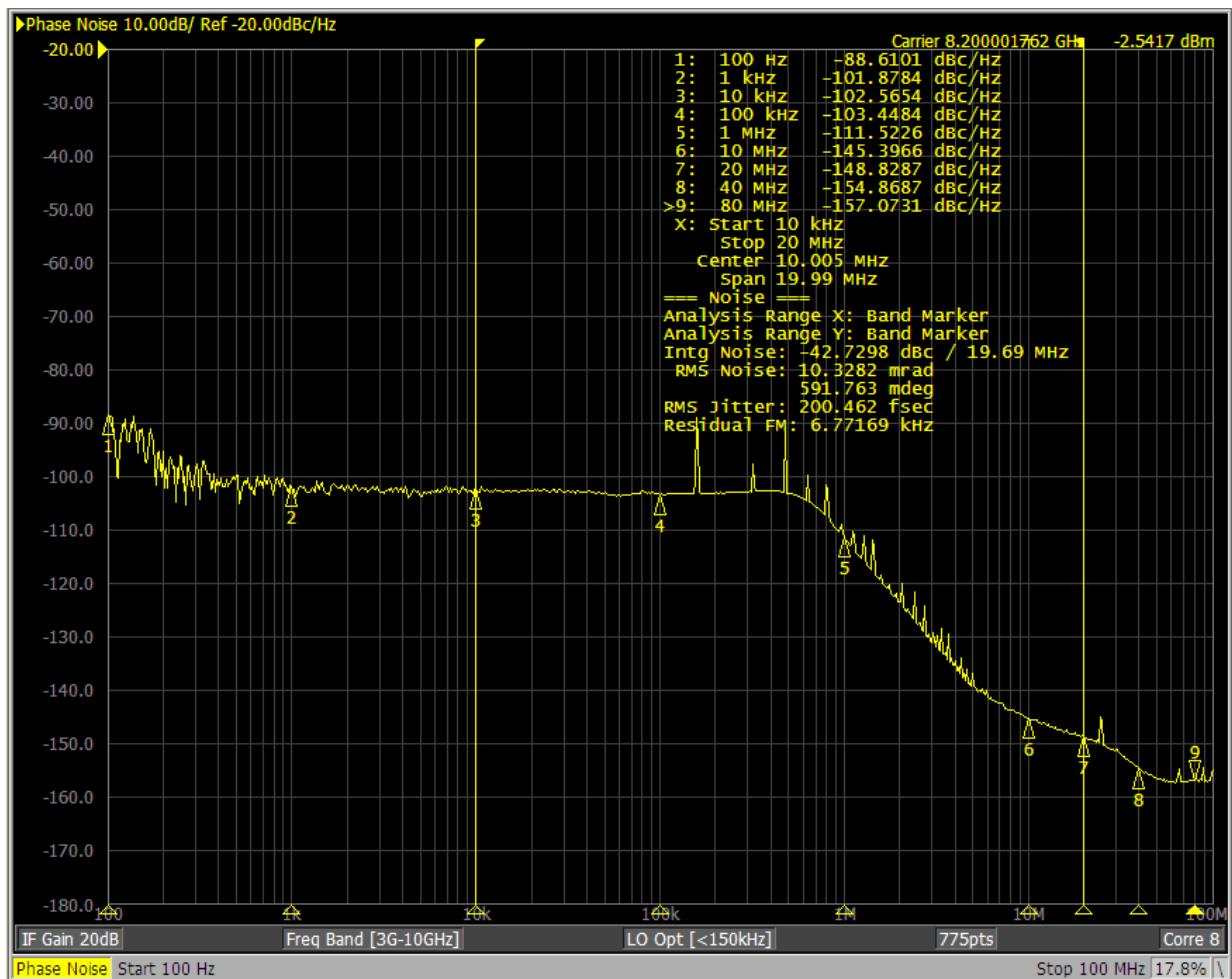

Figure 22. Expected Performance of 8200MHz Output without Bleeder Current from Example 2
- b. Charge pump current can be used to vary the loop bandwidth, therefore optimize phase noise and/or integrated RMS jitter. Set Pmos = 8.5mA, Nmos = 8.5mA to get the performance shown in the phase noise plot in Figure 22.
Phase noise measurement results shown in Figure 22, Figure 24, and Figure 25 were obtained with the input reference clock from a bench signal generator. Because the in-band phase noise performance of 8V97003 RF/Microwave Synthesizer is dictated by the phase noise performance of the input reference, the input reference's phase noise performance is provided in Figure 26.